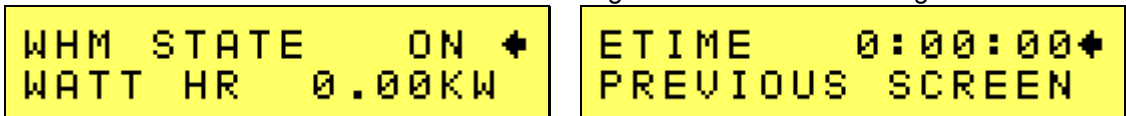

Figure 9-20: Watt-Hour Meter Screen
- The WATT-HOURS METER screen shown in Figure 9-20 has the following fields:
1. WHM STATE: This field will activate the watt-hour measurements. Moving the shuttle clockwise when the field is highlighted will activate the watt-hour function and the field will change to ON as shown in Figure 9-20.